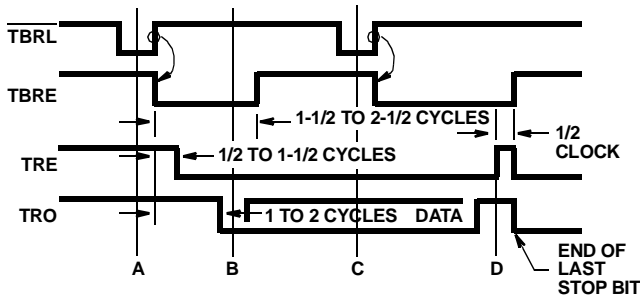

FIGURE 3. TRANSMITTER TIMING WAVEFORMS
Transmitter timing is shown in Figure 3. (A) Data is loaded into the transmitter buffer register from the inputs TBR1 through TBR8 by a logic low on the TBRL input. Valid data must be present at least t_{DT} prior to, and t_{DT} following, the rising edge of TBRL. If words less than 8-bits are used, only the least significant bits are used. The character is right justified into the least significant bit, TBR1. (B) The rising edge of TBRL clears TBRE. 1/2 to 1 1/2 cycles later, depending on when the TBRL pulse occurs with respect to TRC, data is transferred to the transmitter register and TRE is cleared. TBRE is set to a logic High one cycle after that.